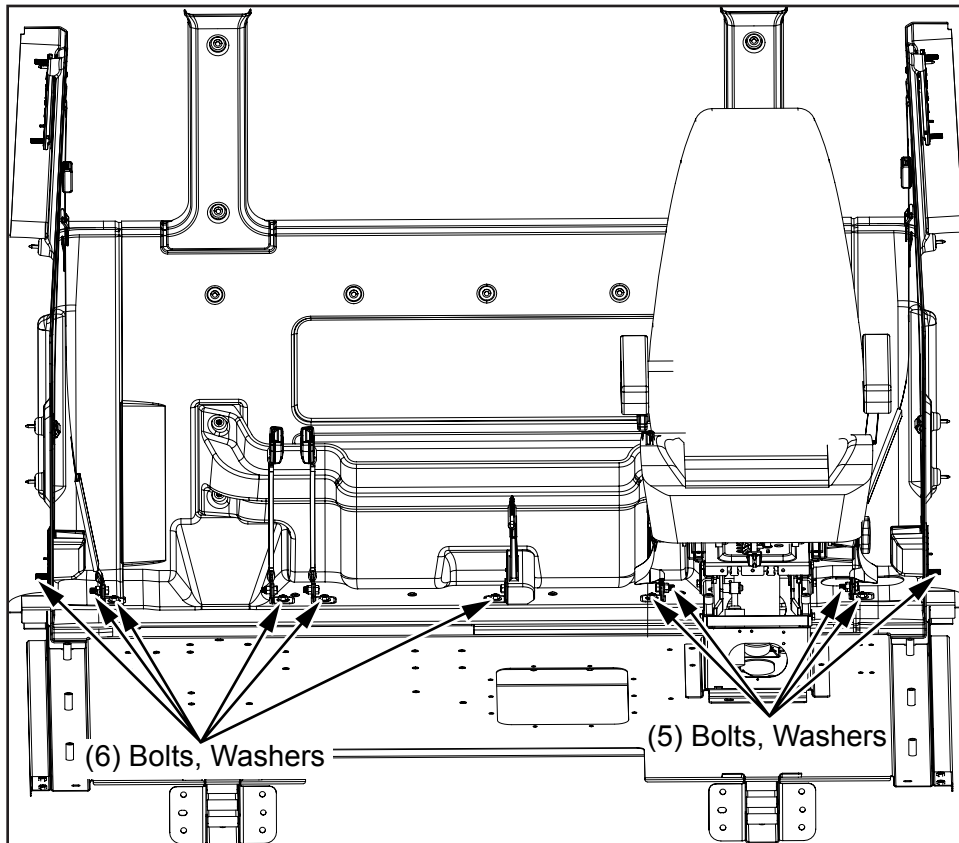

Figure 9
10. Remove (6) 7/16" bolts with washers and discard. Remove (5) 7/16" bolts with washers and discard (see Figure 9).